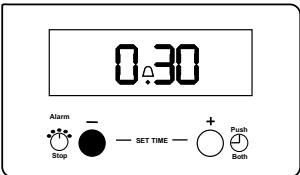

Fig.9
Press and hold button (1) and the display will count down in one minute intervals to 0.00. See Fig. 9.